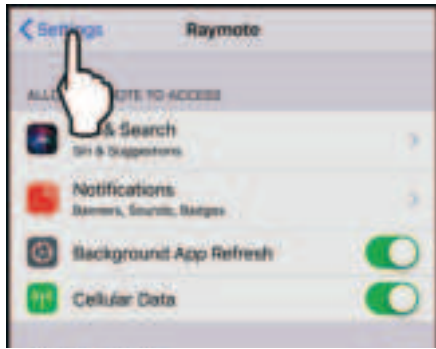

Figure 92. Select "Settings" Menu
5. On the top left corner of the screen, press the "Settings" button to go the Settings menu. See **Figure 92**.